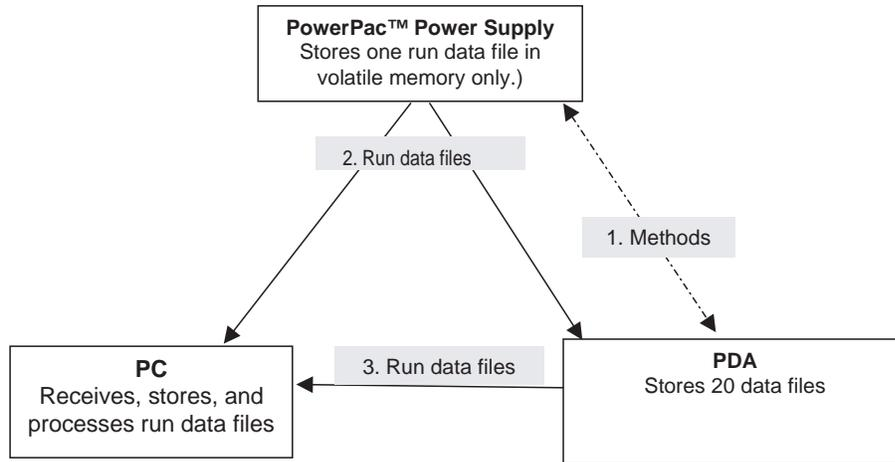

Fig. 3. Data files transfer pathway.
3. Run data files can be transmitted from the PDA to a PC (Figure 3).
The PowerPac power supply will store and transfer methods and run stored data file in the temporary memory. The PDA will store and transfer 20 methods and 20 data run files. The PC will only receive run data files. All methods must be created on the PDA or power supply. Methods cannot be created on the PC. The PC allows the operator to store run data and methods (Figure 3).